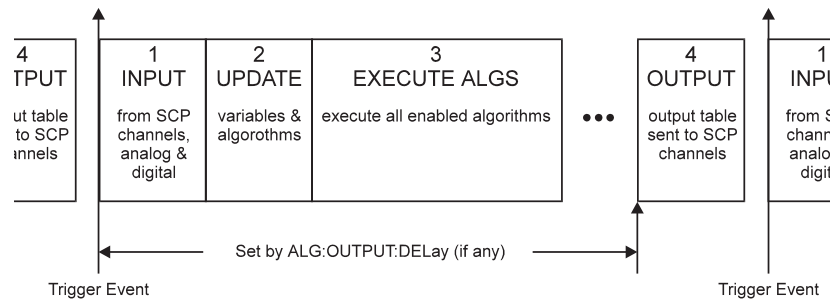

Figure 6-1: Updating Variables and Algorithms
- The algorithm output statements (e.g. O136 = Out_val) DO NOT program outputs when they are executed. Instead, these statements write to an intermediate Output Channel Buffer which is read and used for output AFTER all algorithms have executed AND the algorithm output delay has expired (see Figure 6-1). Also note that not all outputs will occur at the same time but will take approximately 10 μ s per channel to write.
- Variables and algorithms can be accepted during Phase 1-INPUT or Phase 2-UPDATE in Figure 6-1 when INIT is active. All writes to variables and algorithms occur to their buffered elements upon receipt. However, these changes do not take effect until the ALG:UPD:IMM command is processed at the beginning of the UPDATE phase. The update command can be received at any time prior to the UPDATE phase and will be the last command accepted. Note that the ALG:UPD:WINDow command specifies the maximum number of
ALGORITHM:UPDATE:CHANNEL <dig_chan> This command is used to update variables, algorithms, ALG:SCAN:RATIO, and ALG:STATE changes when the specified digital input level changes state. When the ALG:UPD:CHAN command is executed, the current state of the digital input specified is saved. The update will be performed at the next update phase (UPDATE in Figure 6-1), following the channel's change of digital state. This command is useful to synchronize multiple VT1419As when it is desirable for all variable updates to be processed at the same time.
- The duration of the level change to the designated bit or channel MUST be at least the length of time between scan triggers. Variable and algorithm changes can be accepted during the INPUT or UPDATE phases (Figure 6-1) when INIT is active. All writes to variables and algorithms occur to their buffered elements upon receipt. However, these changes do not take effect until the ALG:UPD:CHAN command is processed at the beginning of the UPDATE phase. Note that the ALG:UPD:WINDow command specifies the maximum number of updates to do. If no update command is pending when entering the UPDATE phase, then this time is dedicated to receiving more changes from the system.